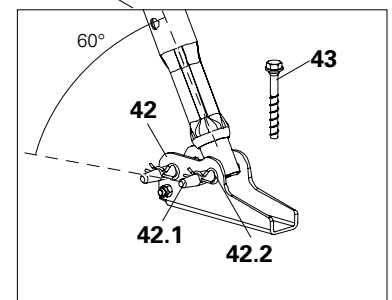

Fig. B3.01b
Inclination angle of the push-pull prop in relation to the ground approx. 60°. (Fig. B3.01b)
5. Fix push-pull prop (**40**) with pins (**42.1**) and cotter pins (**42.2**) to the base plate (**42**). (Fig. B3.01b)